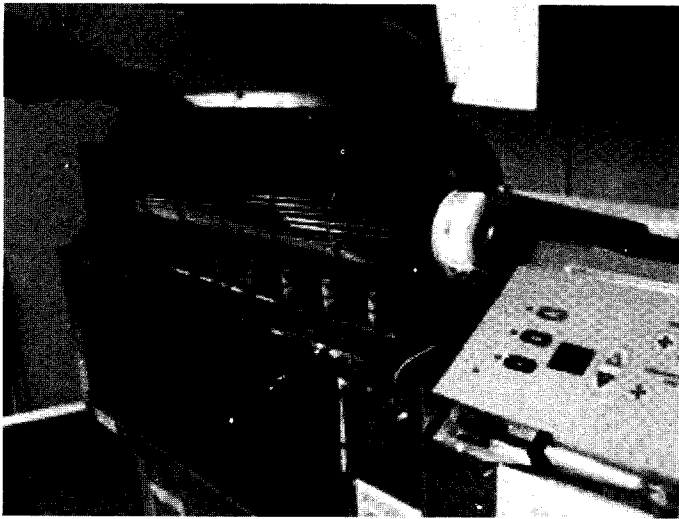

Figure 6
- d. Grasp the blower scroll / heater assembly by the top or sides. Gently slide the assembly to the right, then gently lift upward. Figure 6.